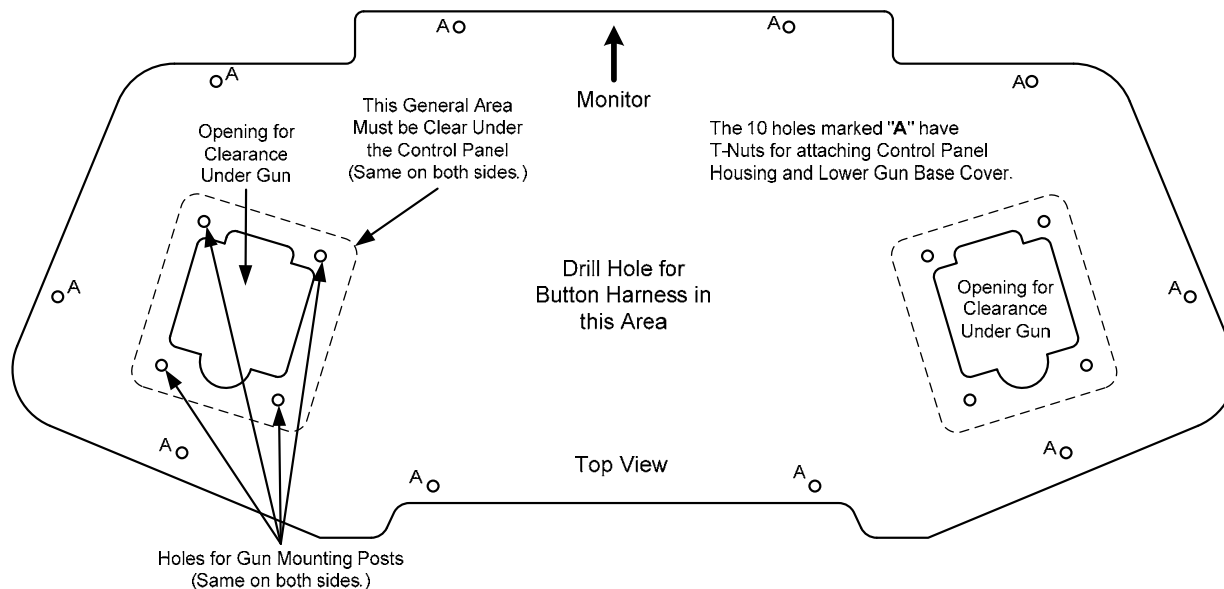

Figure 2. Control Panel Base
Refer to Figure 2 and be sure to consider the following points:
- GLOBAL VR recommends bolting the control panel to a flat surface using the four (4) ¼-20 x 2" bolts with two flat washers and Kep nut included in the kit. If this does not work with your cabinet you may use a different method.
- Make sure that the area below each gun is clear. This general area is shown in Figure 2.
- The holes labeled "Holes for Gun Mounting Posts" in Figure 2 are for the four threaded mounting posts on each gun. You will need to thread washers and nuts on these mounting posts. (The posts are not long enough to extend through two sheets of wood.)
- The area labeled "Opening for Clearance Under Gun" in Figure 2 must be clear for the gun harnesses and gun base.